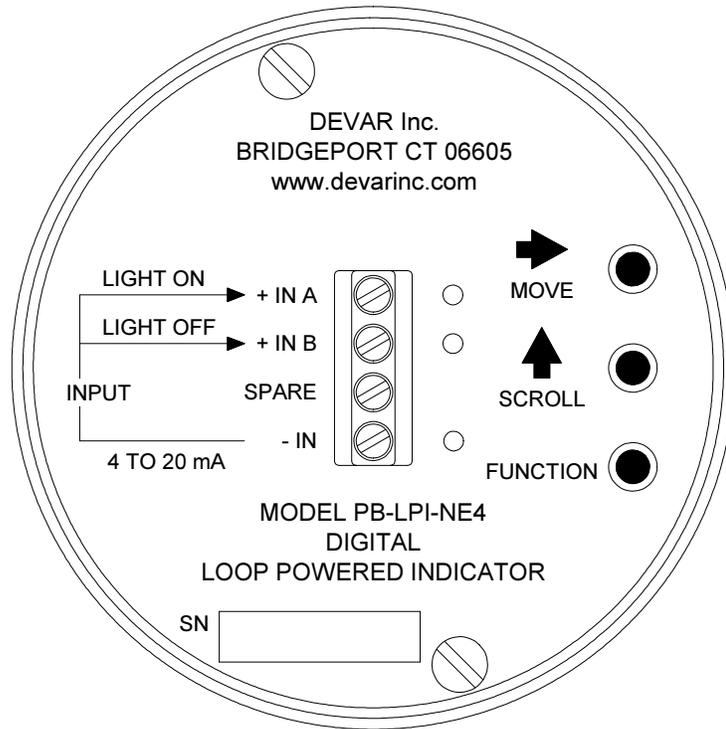

Fig. 5: Back of Display Board
The PB-LPI-NE4 is configured at the factory to display 0 to 100% for a 4 to 20 milliamp input signal. Reconfiguration is easily accomplished using the “**MOVE**”, “**SCROLL**” and “**FUNCTION**” buttons located on the back of the display board. See Fig. 5 on pg 6. Access the buttons by unscrewing the (4) screws of the enclosure and slowly pop off the round Display Board from the (2) standoffs inside. To configure the PB-LPI-NE4 the meter is put into the **Configuration Mode** where the user will be prompted to set the following operating parameters: